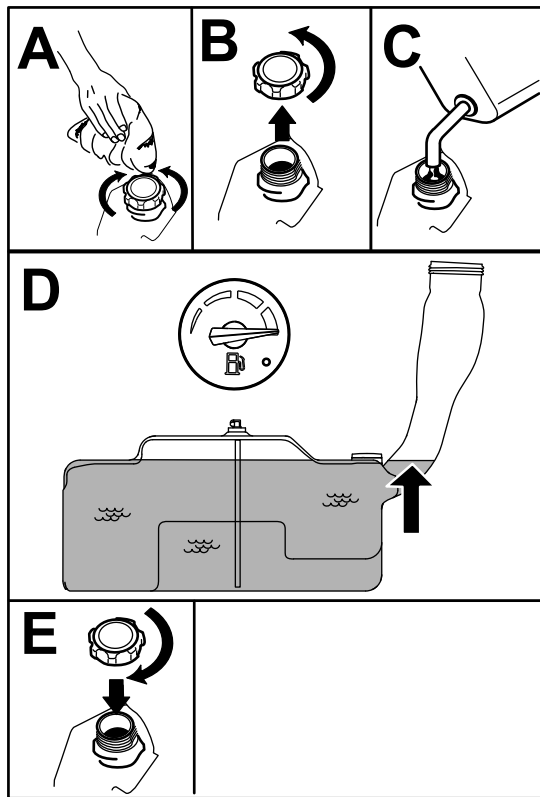

Figure 8
- Fill the fuel tank until the fuel gauge reads at the full mark (Figure 8).